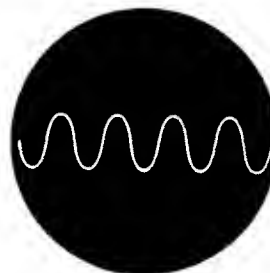

Figure 7.1 400 Hz Video Detector Output When Using Modulated Markers
- 7.2.7 Select the SOUND (41.25) marker frequency. Use maximum oscilloscope gain. Adjust the 415 ATTENUATOR and observe the oscilloscope for a sine-wave pattern (400 Hz). Set the 415 output in the middle of the range over which the detected 400 Hz signal varies with the setting of the ATTENUATOR. A typical waveform is shown in Figure 7.1. The 400 Hz is not synchronized to the sweep; therefore it may not be stationary on the oscilloscope trace.